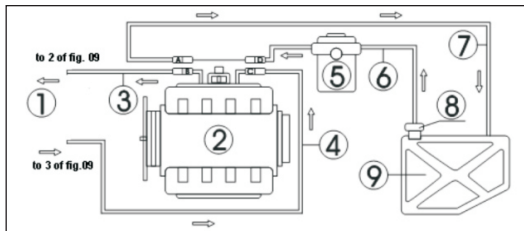

Fig.01
The hose line connection of the engine with return hose is shown as in Fig.01.
- Disconnect the connections of fuel supply hoses (C, D) and fuel return hoses (A, B) of the engine fuel system (wrap the connector with towel when disconnecting the connector). Choose proper connectors and connect them to the B end and C end separately, and then connect the other ends to corresponding return hose and outlet hose of the unit. See Fig.01.